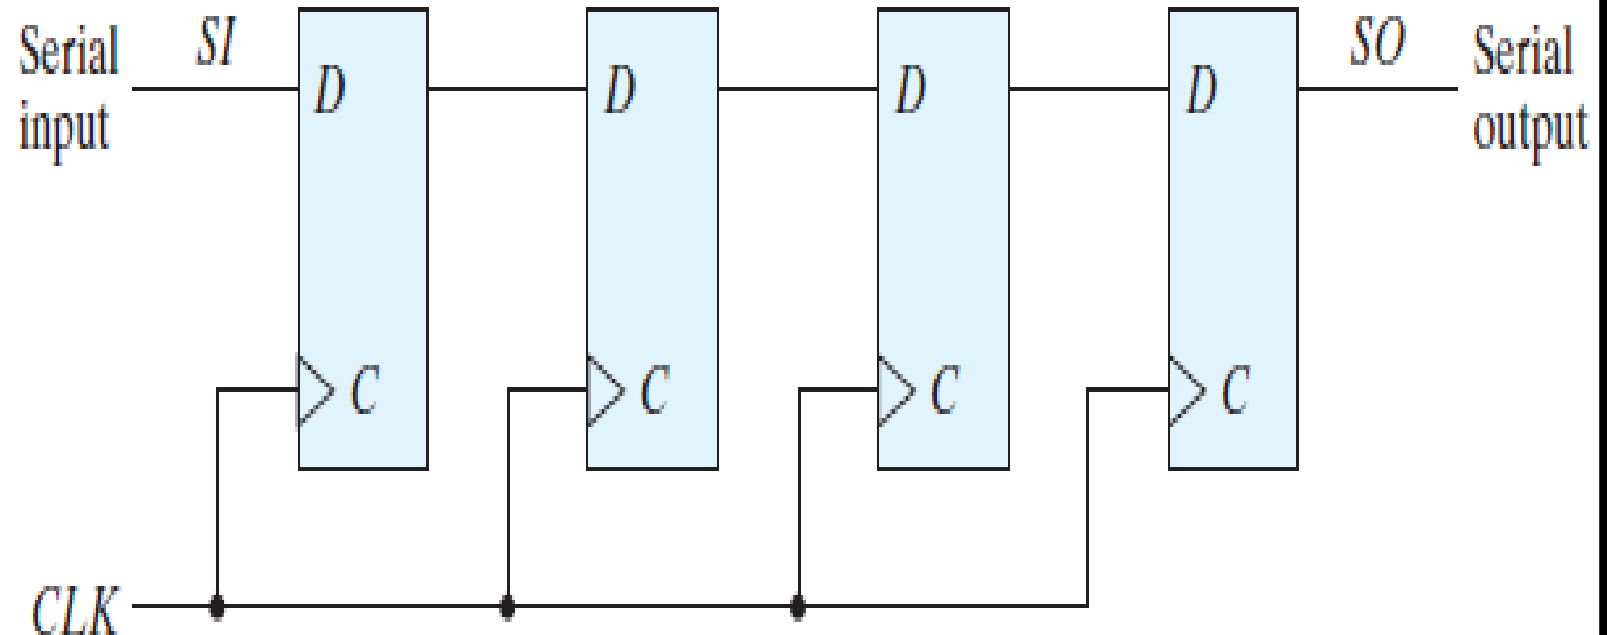

FIGURE 6.3
- The simplest possible shift register is one that uses only flip-flops, as shown in Fig. 6.3 .
- If, however, the shift register of Fig. 6.3 is used, the shift can be controlled with an input by connecting the clock through an AND gate.